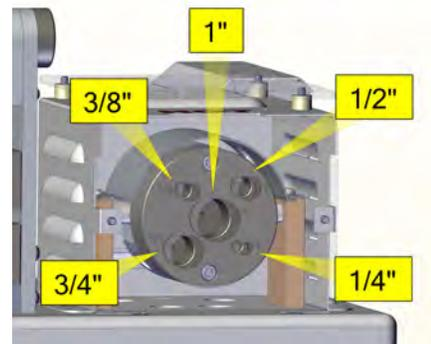
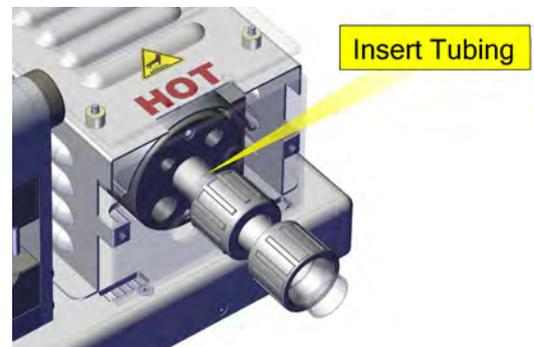

Fig. 5. Tube Size Ports
Fig. 6. Insert Tubing
3. Each hole in the heater block is marked with the tubing OD size (see Fig. 5). Insert prepared tubing through the clear shield into the appropriate tube size port, until the tubing bottoms out. See Fig. 6.